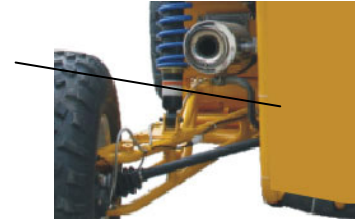

Fig 8
(9) Gear box: 5 forward shifts +1 reverse shift (Fig 8)